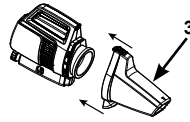

Fig 3.3
2. Install the vacuum body cover (3) onto the vacuum body (1). See fig 3.3.